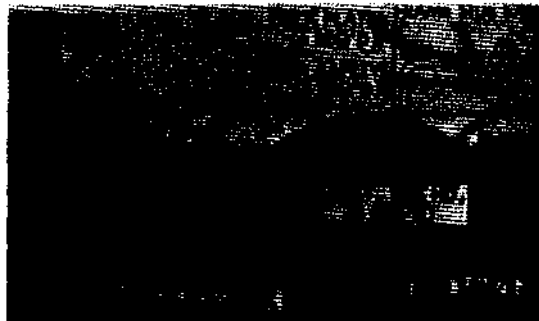

Figure 109. Removal of center deck plate
a. Removal (Fig. 109). Remove six safety nuts, hex-head bolts, and deck plate clamps, and lift center deck plate from vehicle.